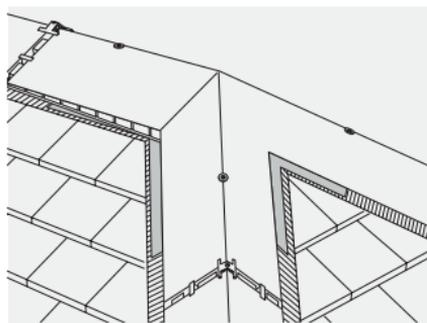

Fig. 64 – Weathering of hip/ridge junction with lead soaker
- 13 Secure the mitred end of the top Hip tile by drilling a 6mm dia. hole centrally through the tile, approx. 125mm down from the apex, using a specialist drill bit for clay plain tiles. Fix the Hip tile to the hip battens using a screw with washer provided and weather all mitre joints using a Code 4 lead saddle or soaker (Fig. 64).